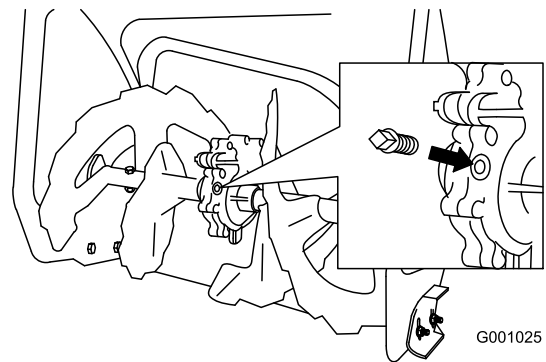

Figure 46
2. Clean the area around the pipe plug (Figure 46).